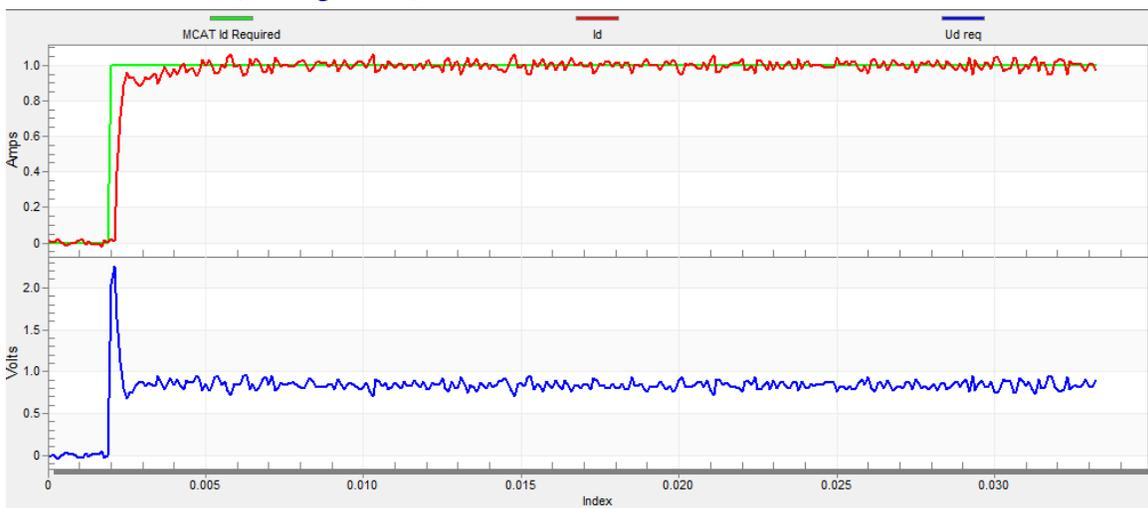

Figure 44. Optimal step response of the I_d current controller
- The loop bandwidth (400 Hz) is optimal and the response time of the I_d current is sufficient (see Figure 44).